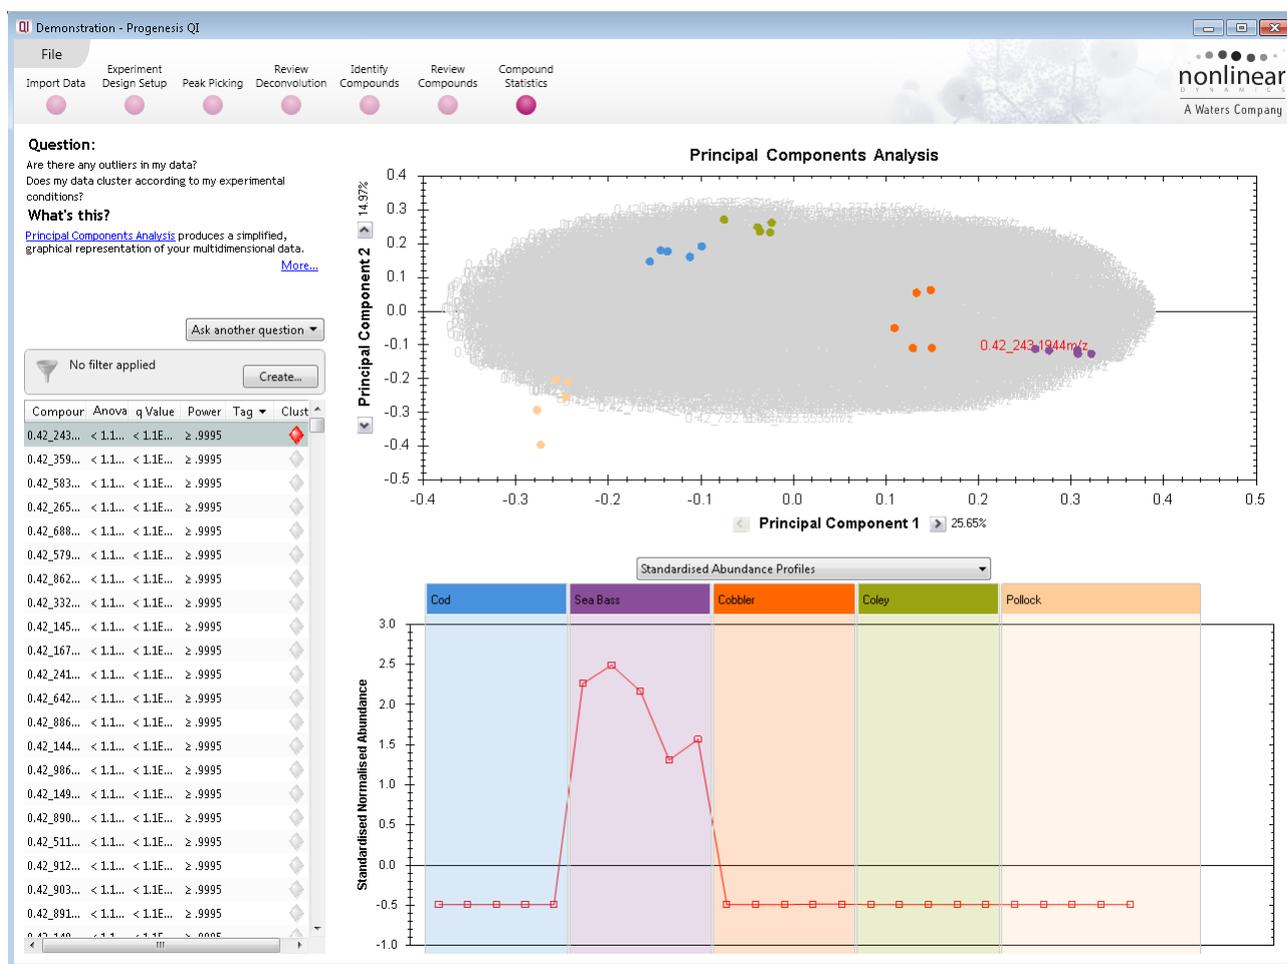

Figure 15: At **Compound Statistics** the separation of normalised compound abundance profiles by PCA can be seen.
2. PCA results will be calculated, and displayed (Figure 15).